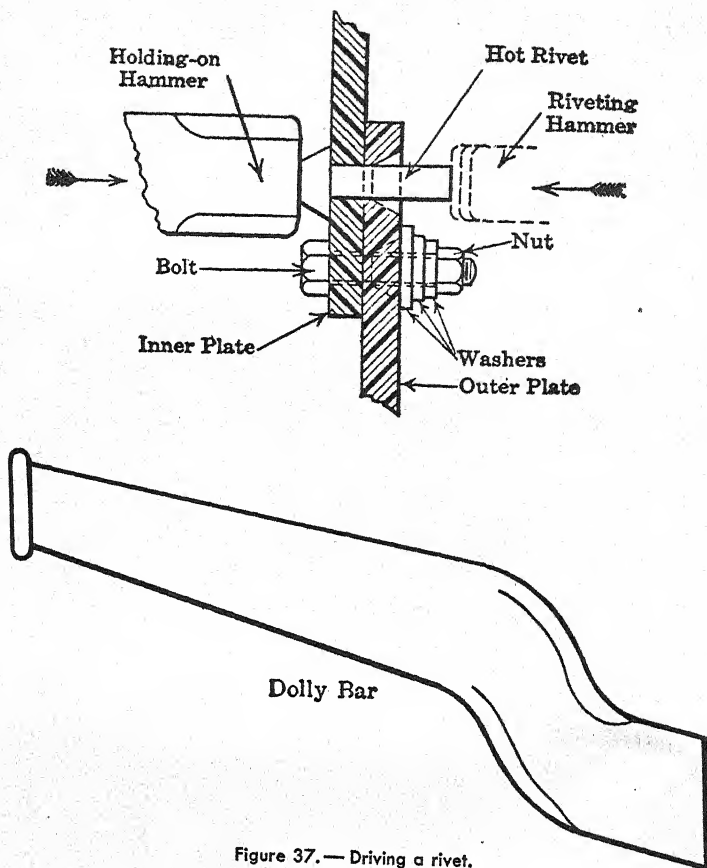

Figure 37.— Driving a rivet.
6. Form the point on the rivet by striking a series of blows around the edge of the rivet. Figure 37 illustrates a rivet properly set up for driving. The dolly bar in the lower half of the figure is a tool that is used for bucking (backing up) the rivet. For removing rivets the cutting torch is your best tool. (See chapter 9 for detailed instructions.)